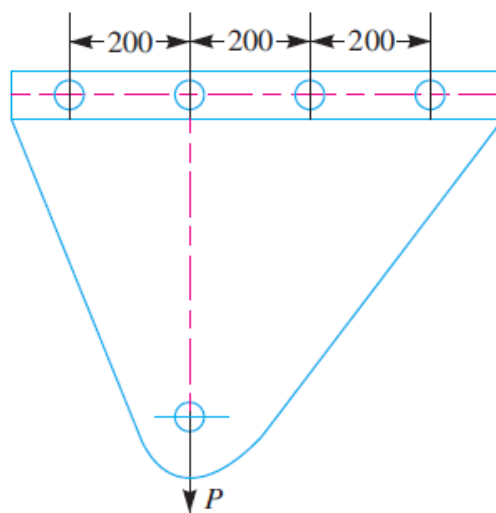

Fig.2
- 2) Find the value of P for the joint shown in Fig.2 based on a working stress of 100 MPa for the rivets. The four rivets are equal, each of 20 mm diameter.